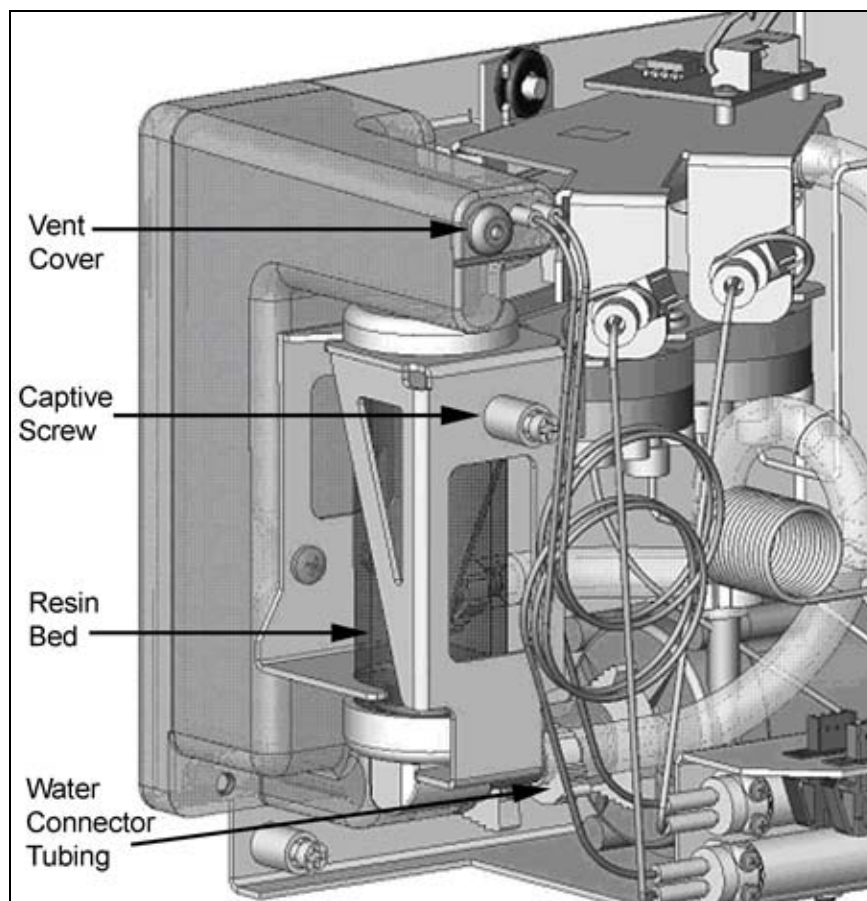

Figure 34: Brass-Colored Resin Bed Bracket
5. Open the Analyzer case and locate the resin bed. The resin bed sits slightly in front and to the left of the DI reservoir. (Refer to Figure 34 for positioning of the elements in the resin bed that are discussed in the following steps.)